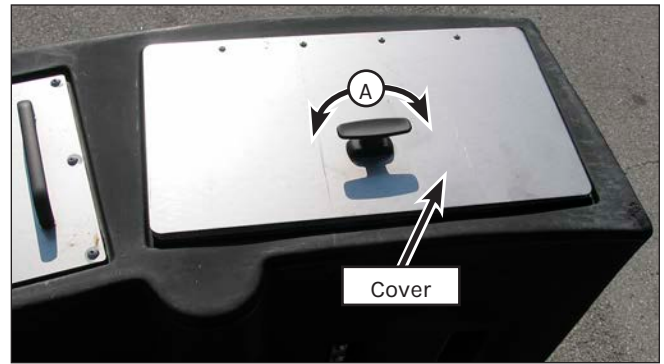

Figure 52: Filter Cover
1. Rotate the handle (Figure 52, A) on the filter cover (Figure 52) and swing the cover open.